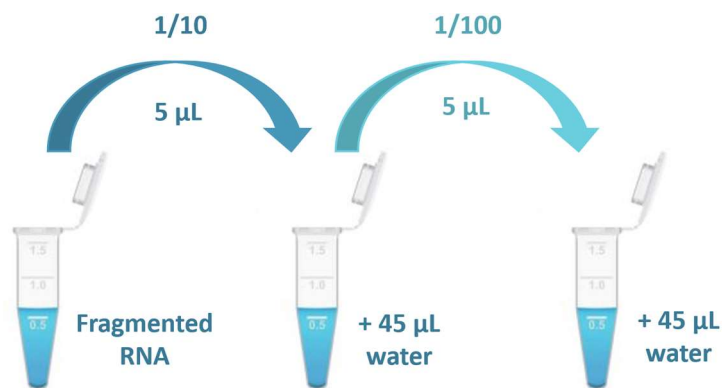

Figure 4 - Dilution series of 50- $\mu\text{L}$  RNA eluates for use of the CARLA kit with Protocol B
- For each fragmented RNA tube, prepare two new 1.5 mL tubes and perform dilutions 1/10 and 1/100 with Molecular Biology Grade Water (Figure 4).